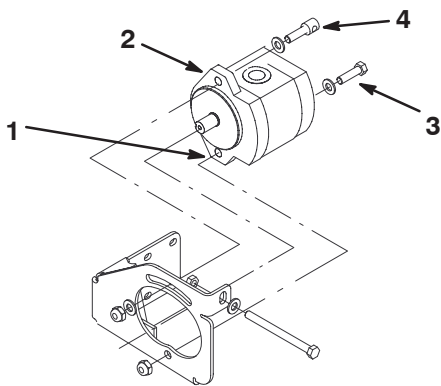

Figure 5
14. Loosely secure the lower flange of the pump to the pump bracket with a 3/8–16 x 1–1/4” bolt, flat washer and nut (Fig. 5).
16. Loosely secure the upper flange of the pump to the pump bracket with a pump guide, flat washer and nut (Fig. 5 & 7).
17. Loosely mount the pump guide to the flange on the pump bracket with a 3/8–16 x 4–1/2” bolt, jam nut and washer as shown in figures 5 & 7.